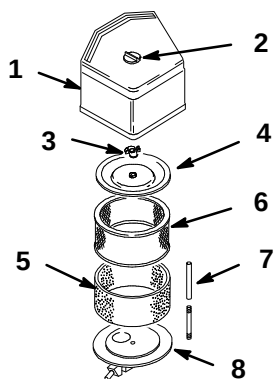

Figure 16
3. Clean around the air cleaner to prevent dirt from getting into the engine and causing damage. Remove knob and the air cleaner cover (Fig. 16).
4. Carefully slide the foam element off the paper element (Fig. 16).
5. Unscrew the cover nut and remove the cover and paper element (Fig. 16).
1. Carefully slide the foam element onto the paper air cleaner element (Fig. 16).
2. Slide the air cleaner assembly and cover onto the long rod. Now screw the cover nut finger-tight against the cover (Fig. 16).
3. Install the air cleaner cover (Fig. 16).